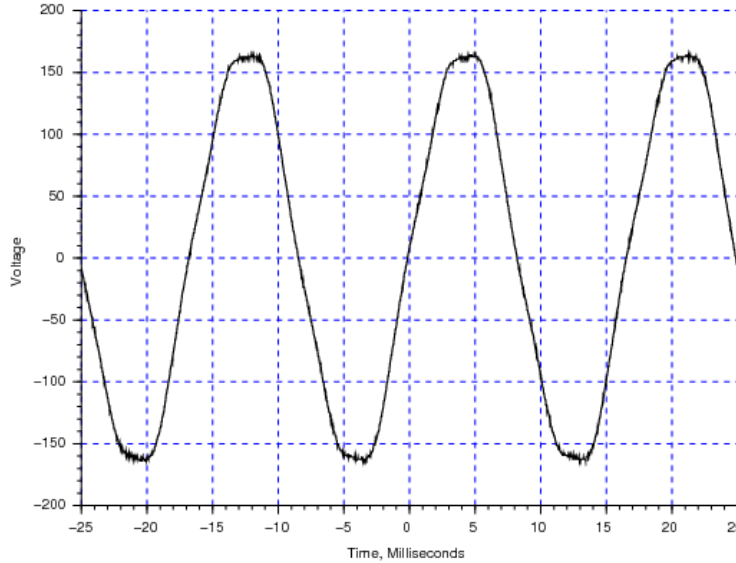
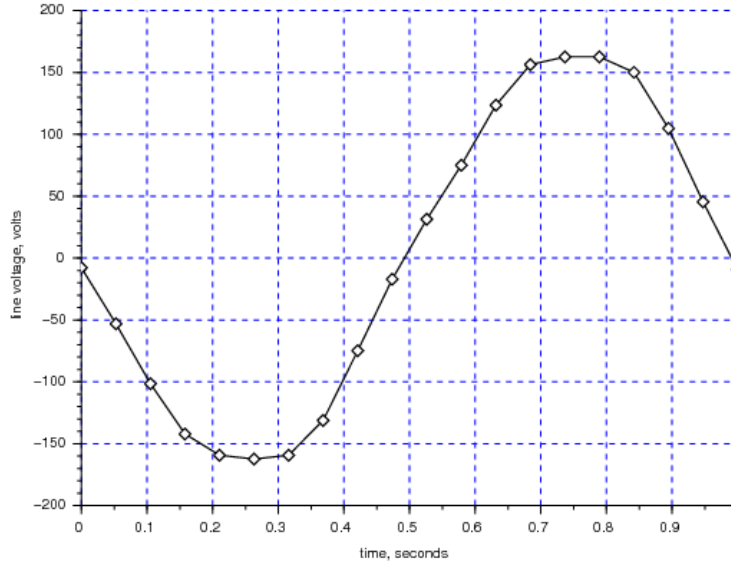

Figure 9: Example power line voltage.
Figure 12: Example power line signal, sub-sampled.
Wrong. Figure 9 on page 12 shows a snapshot that I collected of the line voltage at my house. It's probably typical of the power that you'll see in North America: it's nominally
For instance, if we choose to sample the 60Hz waveform in Figure 9 on page 12 at 19Hz, then we can find that  $M = 3$ ,  $P = 3$ , and  $N = 19$ . Thus, we should be able to build up a picture of the 60Hz power line voltage in 19 samples, or just under one second. The correct order of the  $k^{th}$  sample in this sample set will be
Figure 12 on page 15 shows the waveform in Figure 9 on page 12 after it's been sampled at 19Hz and reordered according to (9). The resulting waveform repeats at slightly less than 1Hz instead of 60, but it replicates the original waveform as faithfully as sampling it at 1140Hz ( $19 \cdot 60\text{Hz}$ ) would have10.